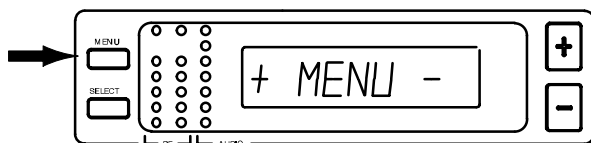

FIGURE 16
1. Press the MENU button. The “+ MENU -” display appears, as shown in Figure 16.